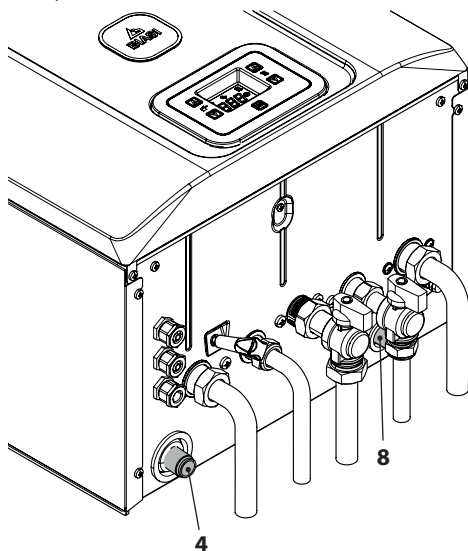

Figure 5.4
- Connect the safety valve discharge 8 (Figure 5.4) to an outlet funnel.
- Insert the flexible condensate discharge pipe 4 (Figure 5.4) inside the residential condensate discharge duct or the discharge funnel of the safety valve if the discharge is suitable for receiving acid condensate.